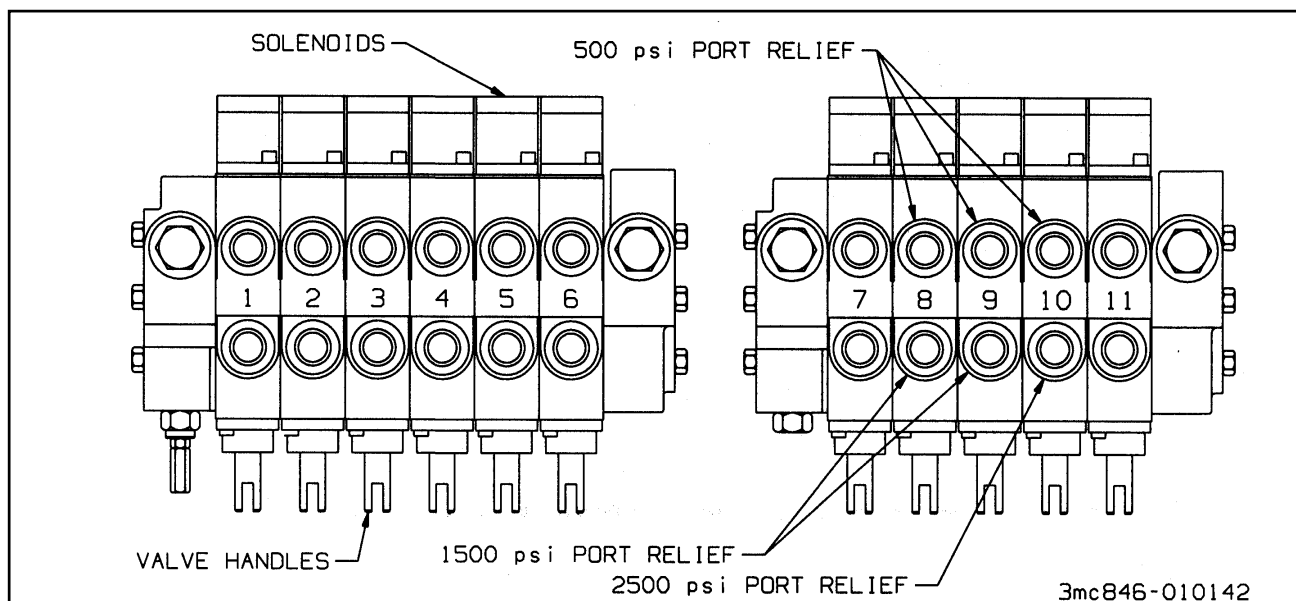

Figure 4-2 Pressure Settings for Control Valve Ports
- All sections on the 6 spool valve are set at 2500 psi. Sections 7 and 11 on the 5 spool valve are set at 2500 psi. Sections 8, 9 and 10 have relief valves. The front ports of sections 8 and 9 should be set at 1500 psi and the rear ports at 500 psi. The front port of section 10 should be set at 2500 psi and the rear port at 500 psi. (**See Figure 4-2**).